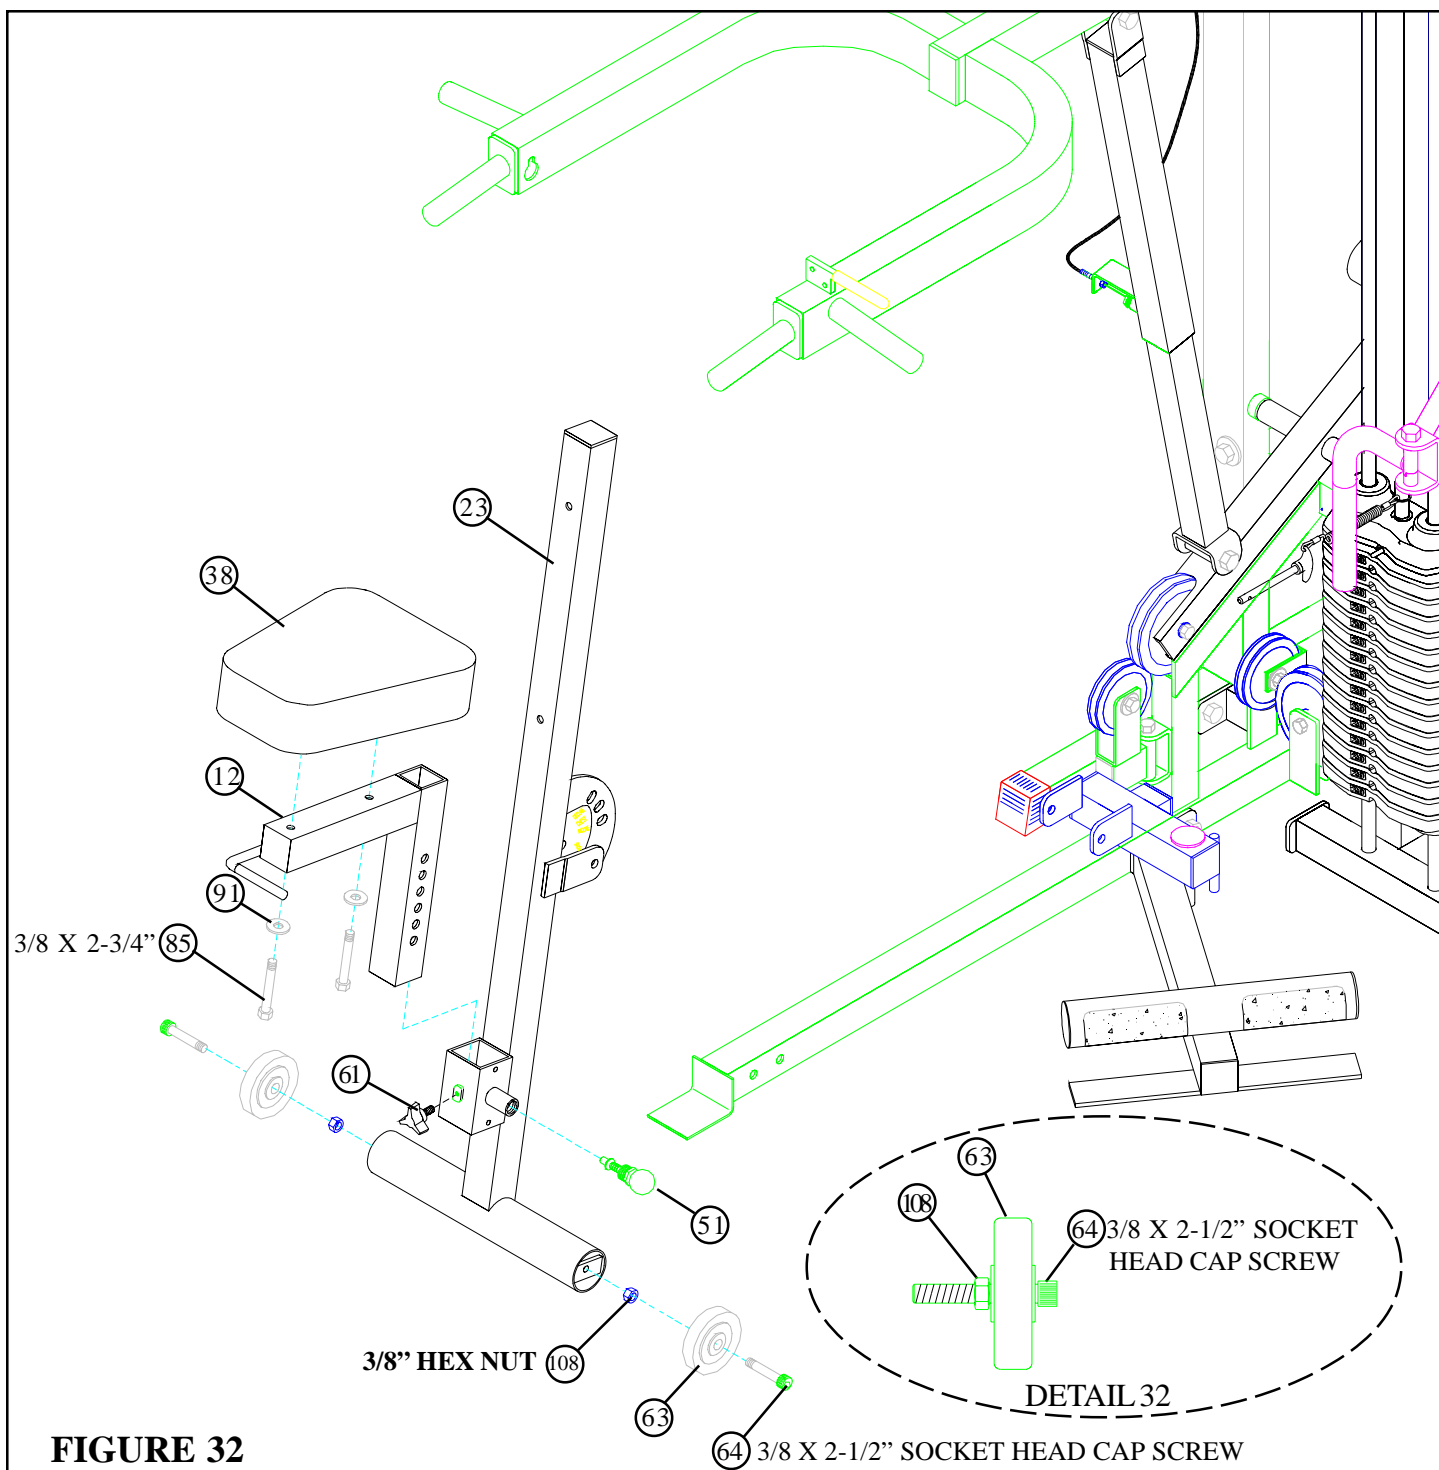

FIGURE 32
- **SECURELY** assemble one 3/8" SPRING PIN (51) to the spring pin housing of the PRESS BACK SUPPORT (23). (**NOTE: Tighten the nut of the SPRING PIN ASSEMBLY SECURELY.**)
- Assemble one 3-PRONG KNOB (61) the PRESS BACK SUPPORT (23) as shown in FIGURE 32.
- **SECURELY** assemble two 3" WHEELS (63) using two BLACK 3/8 X 2-1/2" SOCKET HEAD CAP SCREWS (64) and two 3/8" HEX NUTS (108) as shown in DETAIL 32.
- **SECURELY** assemble two wheel assemblies to the PRESS BACK SUPPORT (23) as shown in FIGURE 32.
- **SECURELY** assemble the SEAT PAD (38) to the PRESS SEAT ADJUST (12) using two 3/8 X 2-3/4" BOLTS (85) and two 3/8" WASHERS (91). See FIGURE 32.
- Pull back the 3/8" SPRING PIN (51) on the PRESS BACK SUPPORT (23) and slide the PRESS SEAT ADJUST (12) into the receiving well. Engage the 3/8" SPRING PIN (51) into one of the adjustment holes.